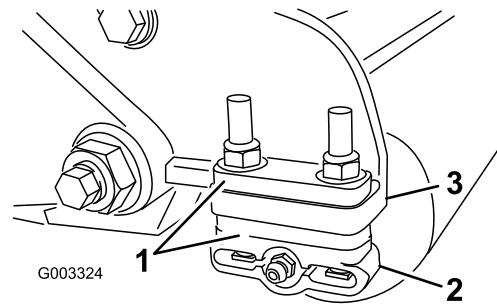

Figure 12
1. Adjust the rear roller brackets (Figure 12) to the desired height-of-cut range by positioning the required amount of spacers below the sideplate-mounting flange (Figure 12) per the HOC Chart.